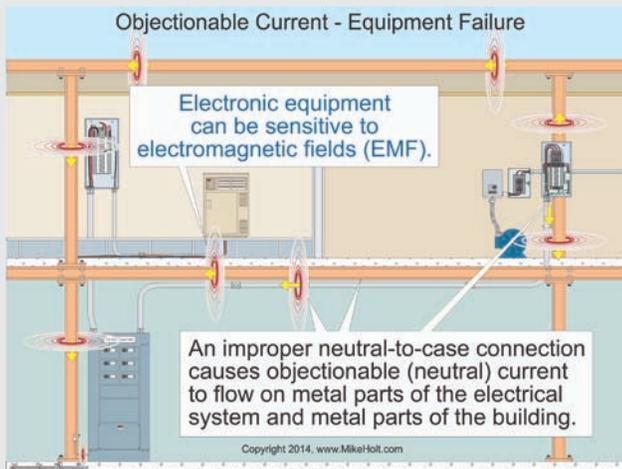

Figure 250–34
**Improper Operation of Electronic Equipment.** Objectionable neutral current flowing on metal parts of electrical equipment and building parts can cause electromagnetic fields which negatively affect the performance of electronic devices, particularly medical equipment. *Figure 250–34*